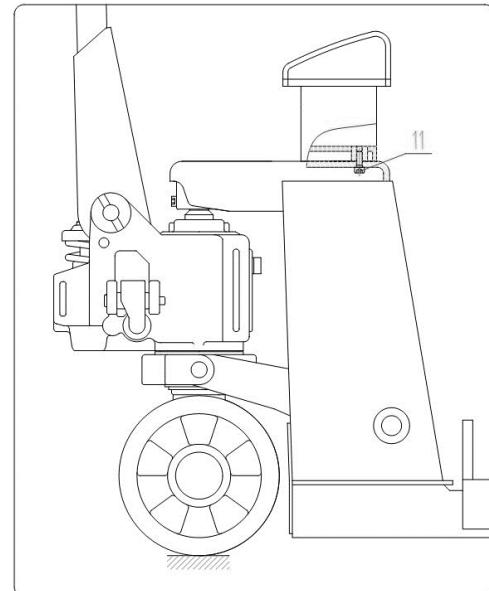

Fig. 6
2.2.1 The protective steel stand and the scale should be placed as indicated in fig 6, aligning the fixed holes.
2.2.2 Use three screws (11) to fix the parts as shown in fig 6.